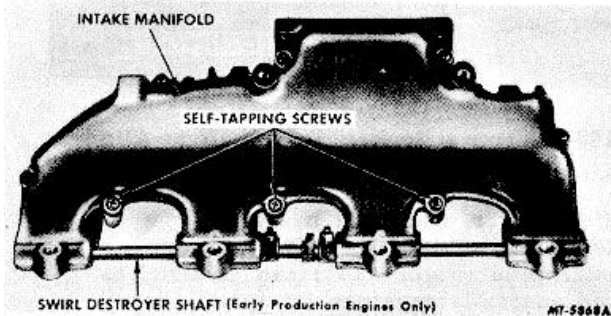

Fig. 142 Intake Manifold
Intake manifolds are cast in two pieces and are held together with eight (8) selftapping screws (Figure 142). During manufacture, a sealer is used between the two valves to eliminate any possibility of leakage. No attempt should be made to disassemble the two halves.